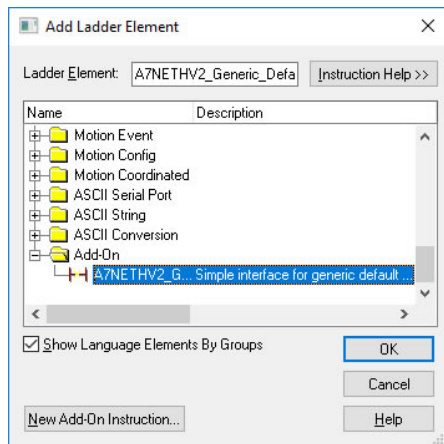

Figure 48: Add Generic Default Add-On Instruction
- 8) Select the generic default I/O add-on instruction in the Add-On folder. Refer to Figure 48.